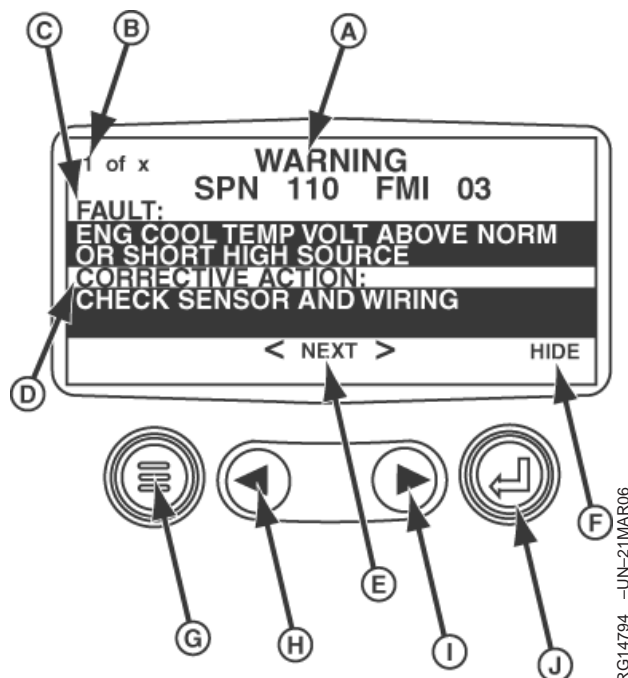

Figure 3. Fault Code Display Screen
b. b. If there are stored fault codes, fault code screen is displayed. For an example, refer to figure 3.
5. When the word "NEXT" (E) appears above the arrow keys (H) and (I), there are more, stored trouble codes that can be viewed by using the arrow keys. To view the next trouble code, press the right arrow key (I). To view the previous trouble code, press the left arrow key (H). As the trouble code being viewed is changed, the "1 of x" (B) shows the number of the trouble code being displayed, out of a total number of active trouble codes. (For example, "3 of 5" means viewing the third trouble code of a total number of five, active trouble codes.) As the arrow keys are used to display next, or previous, trouble codes, the left-hand number changes to the number of the trouble code to which the scroll was advanced or returned.
6. Press the menu key (G) to return to the main menu.